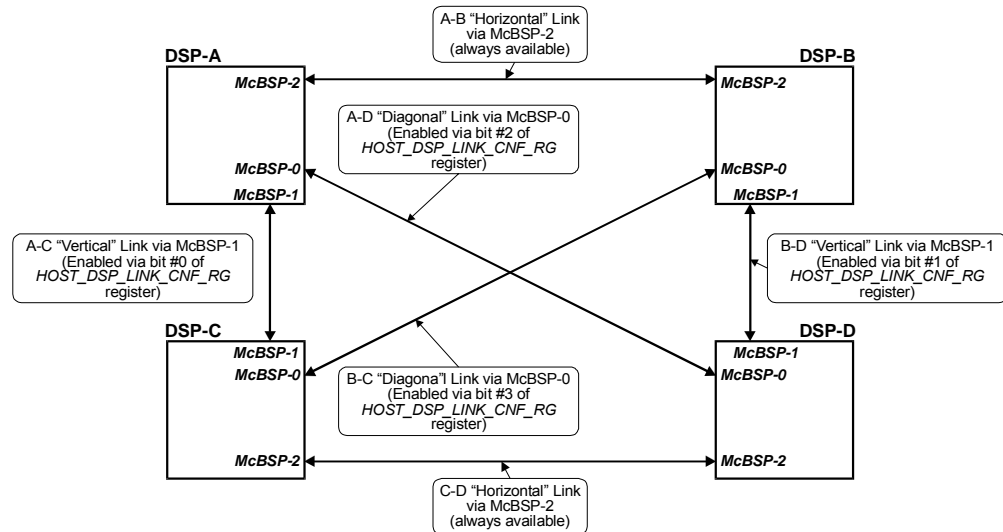

Fig.2-4a. On-board DSP-to-DSP communication topology via serial links for *TORNADO-PX64xxQ* DSP Coprocessor DCM.
- DSP-to-DSP communication via ‘horizontal’, ‘vertical’ and ‘diagonal’ serial links (fig.2-4a), which are actually TMS320C64xx DSP on-chip McBSP-0/1/2 serial ports. Serial links are typically used for stream-line data bulk real-time data transfers under the control of TMS320C64xx DSP on-chip EDMA controllers. ‘Vertical’ and ‘diagonal’ serial links for each DSP can be routed out to on-board MXSIOX edge connectors for external analog I/O and/or for board-to-board communication. Refer to subsection “DSP-to-DSP communication via ‘horizontal’, ‘vertical’ and ‘diagonal’ serial links” later in this section for more details about DSP-to-DSP communication via on-board DSP-to-DSP serial links.
TORNADO-PX64xxQ DSP coprocessor DCM supports DSP-to-DSP communication via bidirectional serial links, which appear as TMS320C64xx on-chip McBSP serial ports connected between on-board DSP in accordance with fig.2-4a.